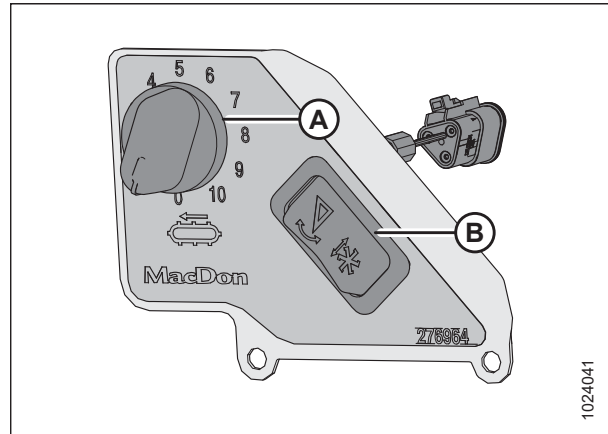

Figure 3.161: In-Cab Side Draper Speed Control
Switch (B) in Figure 3.161, page 144 allows the operator to switch between the header tilt and reel fore-aft controls. For instructions on the controls, refer to Adjusting Header Angle from Combine, page 141